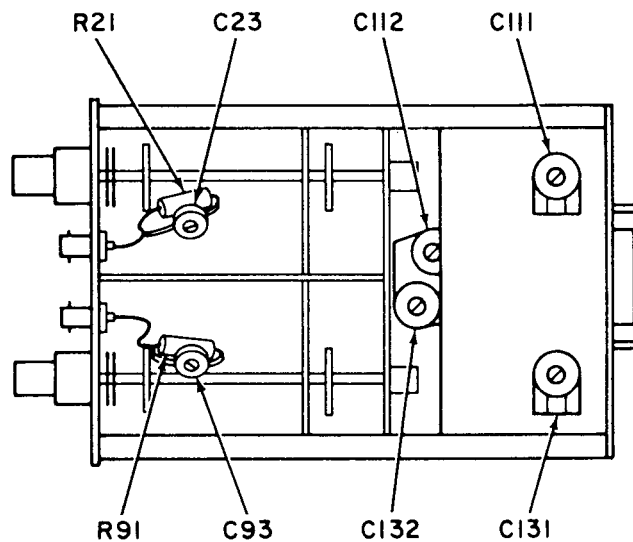

Figure 7. Plug-in unit MX-2995/USM-117 - right-side view.
(1) Adjust C93 (fig. 7) for optimum oscilloscope square-wave display.
(2) Set oscilloscope POWER switch to OFF and connect two adapters and lead (B1 and B9) across R91 (fig. 7).
(4) Set POWER switch to OFF and remove connection made in (3) above.
(5) Set POWER switch to ON and repeat (1) above.
(6) Adjust C23 (fig. 7) for optimum square-wave display.
(7) Set oscilloscope POWER switch to OFF and connect two adapters and lead (B1 and B9) across R21 (fig. 7).
- (1) Adjust C112 (fig. 7) for optimum squarewave display.
- (2) Adjust C111 (fig. 7) for optimum oscilloscope square-wave display.
- (3) Repeat **a**(1) through (4) above and corresponding adjustments until no further adjustments are required.
- (4) Adjust C132 (fig. 7) for optimum oscilloscope square-wave display.
- (5) Adjust C131 (fig. 7) for optimum oscilloscope square-wave display.
- (6) Repeat **a**(6) through (8) above and corresponding adjustments until no further adjustments required.